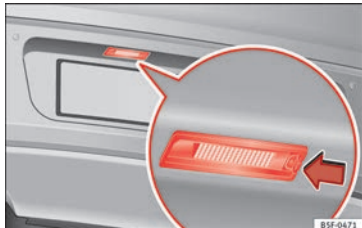

Fig. 118 In the rear bumper: number plate light.
1. Press the number plate light in the direction of the arrow »» Fig. 118.